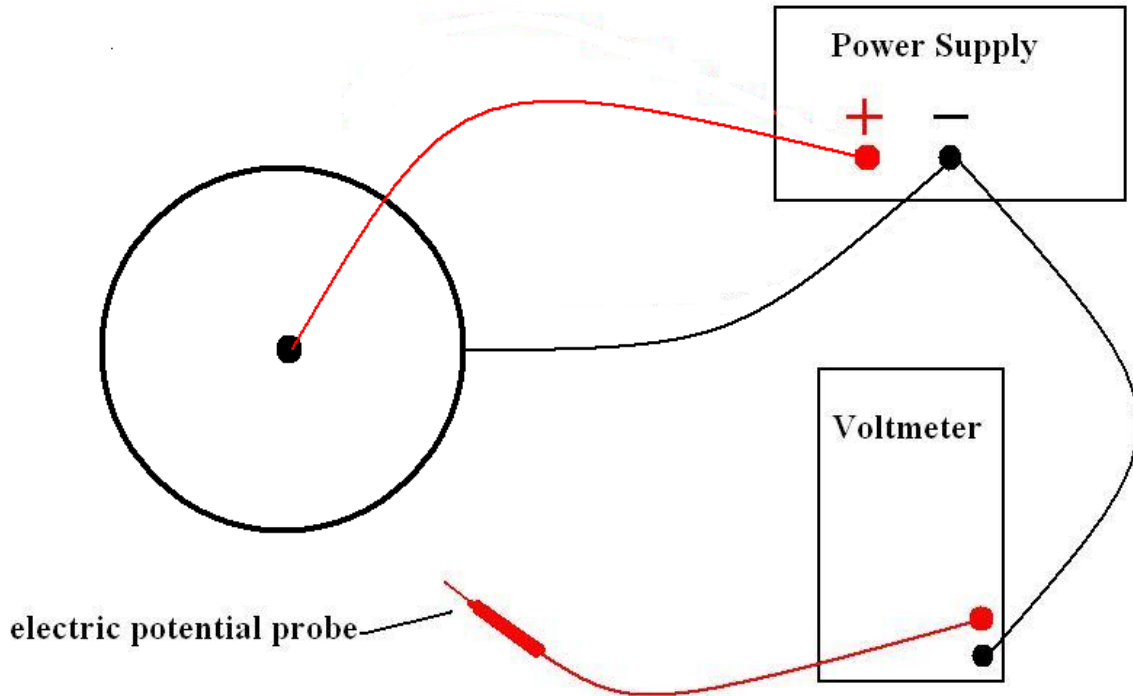

Figure 2
The second charge distribution will be a point source at the center of a ring. A schematic of this arrangement is shown in Figure 2 below.
**Part 2: Ring and Point (Figure 2)**